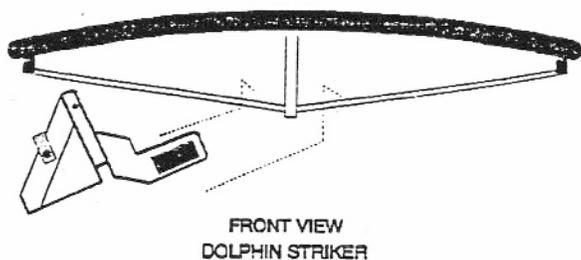
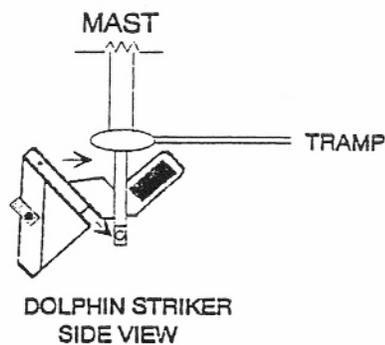
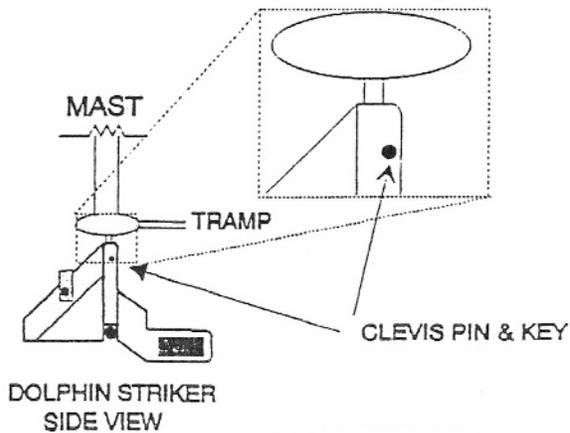

FIGURE 3
FIGURE 4
FIGURE 5
Step 2. To install motor mount to front dolphin striker, tilt motor mount box as shown in figure 3. Set the box on the dolphin striker rods and tilt back as shown in figure 4. You may want to use your knee to assist as this is a very tight fit to keep vibration to a minimum. Tilt back until clevis pin can be inserted behind the dolphin striker post insert clevis pin and key as shown in figure 5.